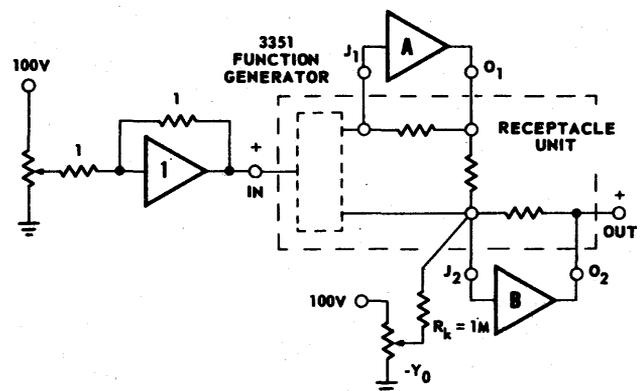

Figure 32. Function Generator Set-up Circuit.
- (3) Connect the function generator using the set-up circuit in Figure 32. All connections are performed at the function generator terminals on the problem board. Resistor R_k is not used if $Y = 0$ at the point $X = 0$.
- (4) Adjust the Break and Slope potentiometers as follows: